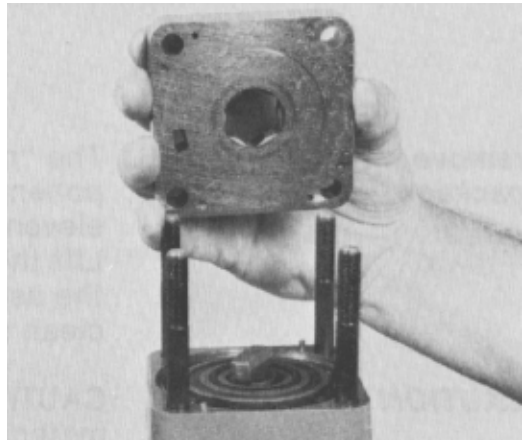

Figure 57
19. Remove the isolation manifold (four plates bonded together) (Fig. 57).